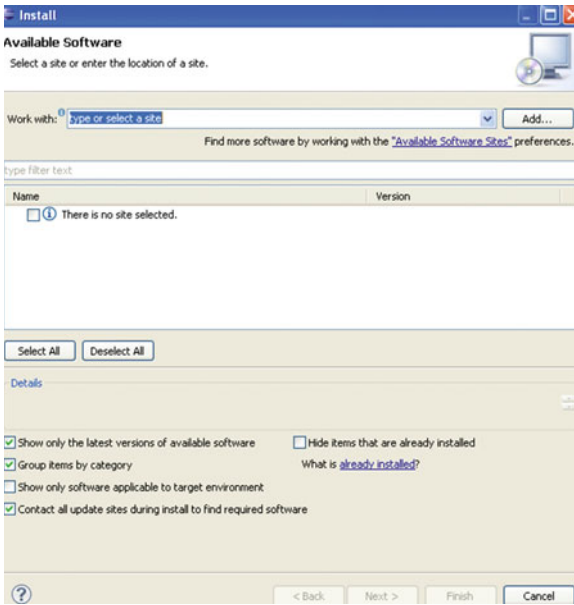

Figure 1-20. Step 1 of installing the leJOS EV3 plug-in
1. In Eclipse, select **Help > Install New Software**. You will see a dialog requesting that you input a URL, as shown in Figure 1-20.